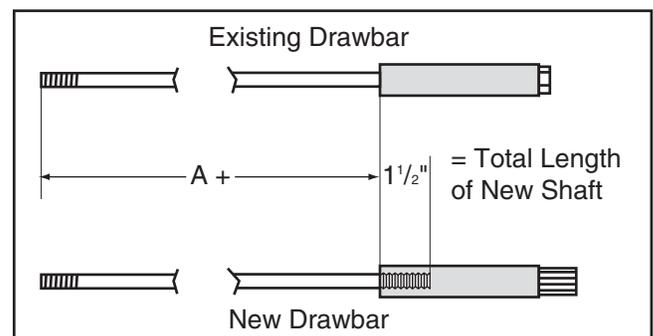

Figure 5. Calculating the length of the new shaft.
2. Measure the length of your mill's existing drawbar from the bottom of the bolt head to the end of the drawbar shaft, then add 1½" (see **Figure 5**).